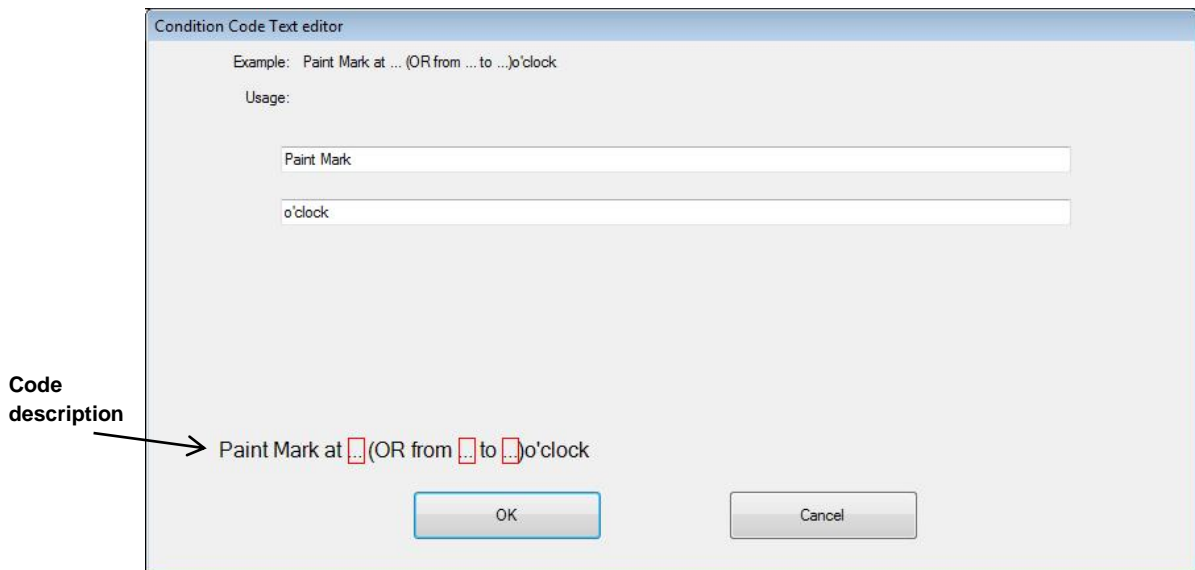

Figure 8.10 Condition Code Text editor
- 4 Enter the text you want to appear in the code description (see Figure 8.10).